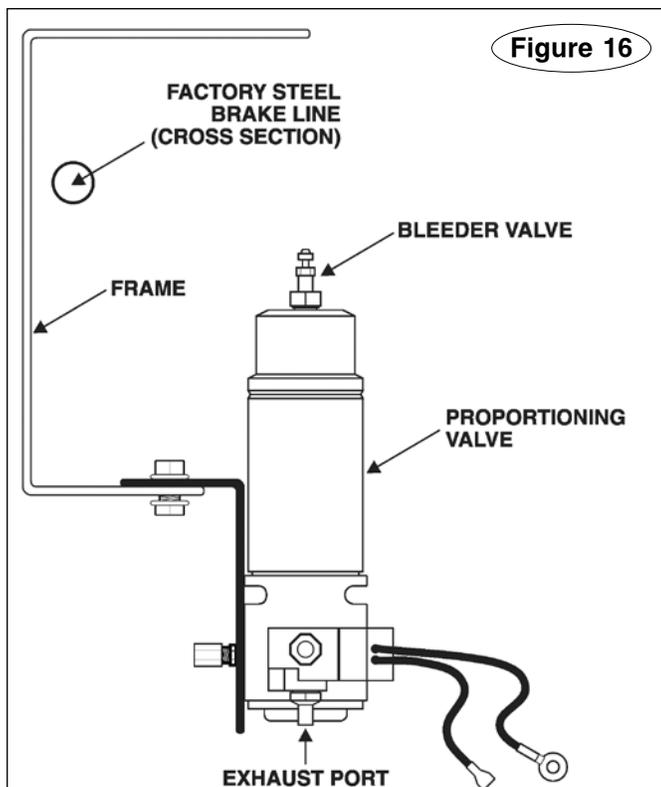

Figure 16
A. There must be adequate room on the frame to mount the proportioning valve assembly (Figure 16) securely in place.
B. When the proportioning valve is installed, the bleeder valve (Figure 16) must point up and the exhaust port (Figure 16) must point down.